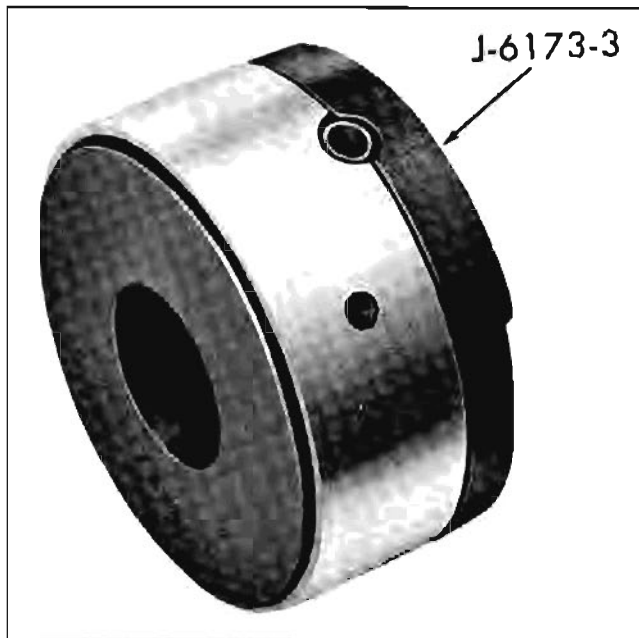

Fig. 6-44 Bearing Installed on Replacer Adapter
4. Coat outside of new bearing with oil and place it over Replacer Adapter J-6173-3, indexing notch in edge of bearing with pin on Replacer Adapter (Fig. 6-44).